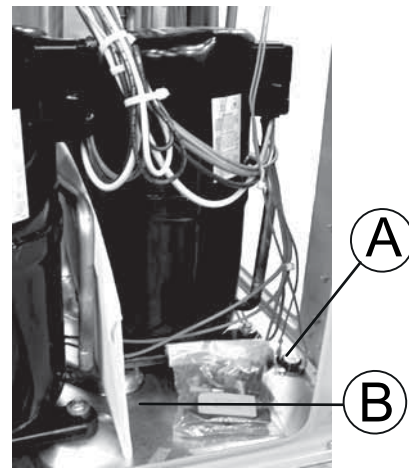

Figure 3: Compressor section
4. Remove the toolless doorknobs and instruction packet, see Figure 3.